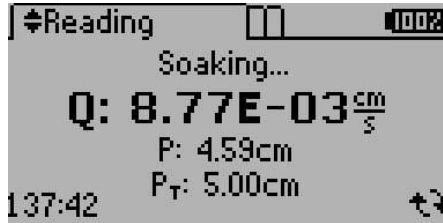

Figure 14 Status screen during test
- **Status Screen.** The Status screen shows the test status as Soaking (Figure 14). When the test is completed, it changes to the Results screen.